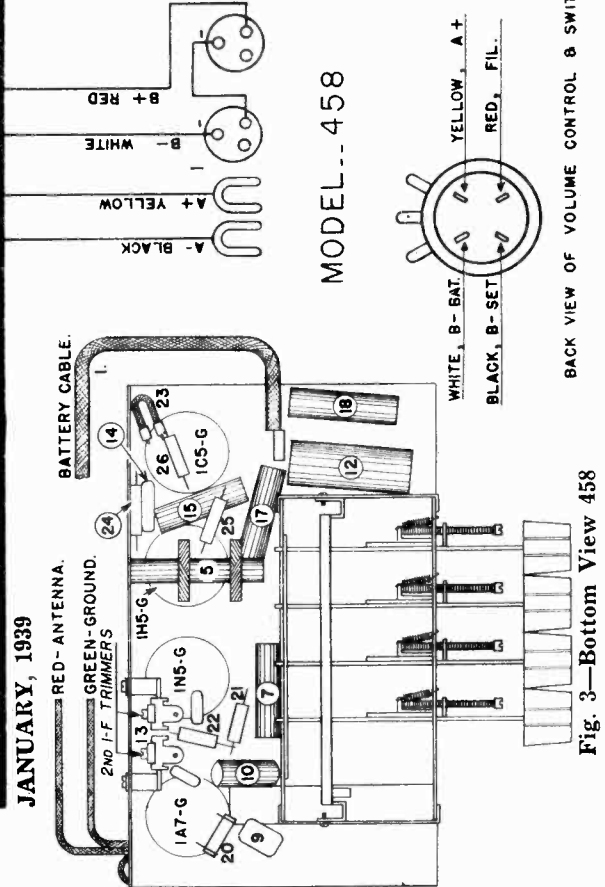

Fig. 3—Bottom View 458
- (b) Set the station selector so that the tuning condenser plates are completely in mesh and turn the volume control knob to the right (ON).
- (d) Adjust both 2nd I-F trimmers (located through rear of chassis flange) for maximum reading on the output meter. (Fig. 3).